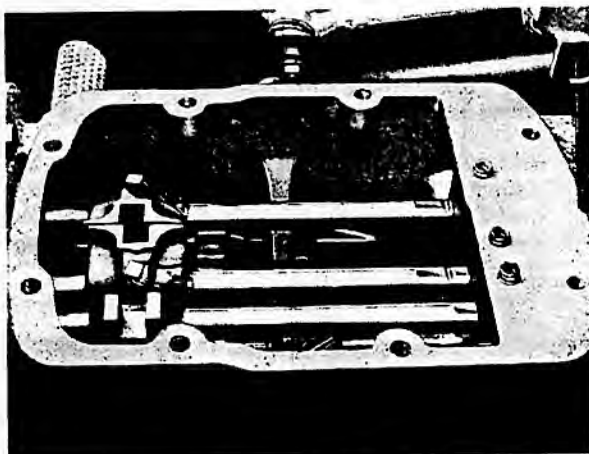

FIG. 10
1. Remove instrument panel (see J-1) and steering box (see J-2), (see Fig. 10).